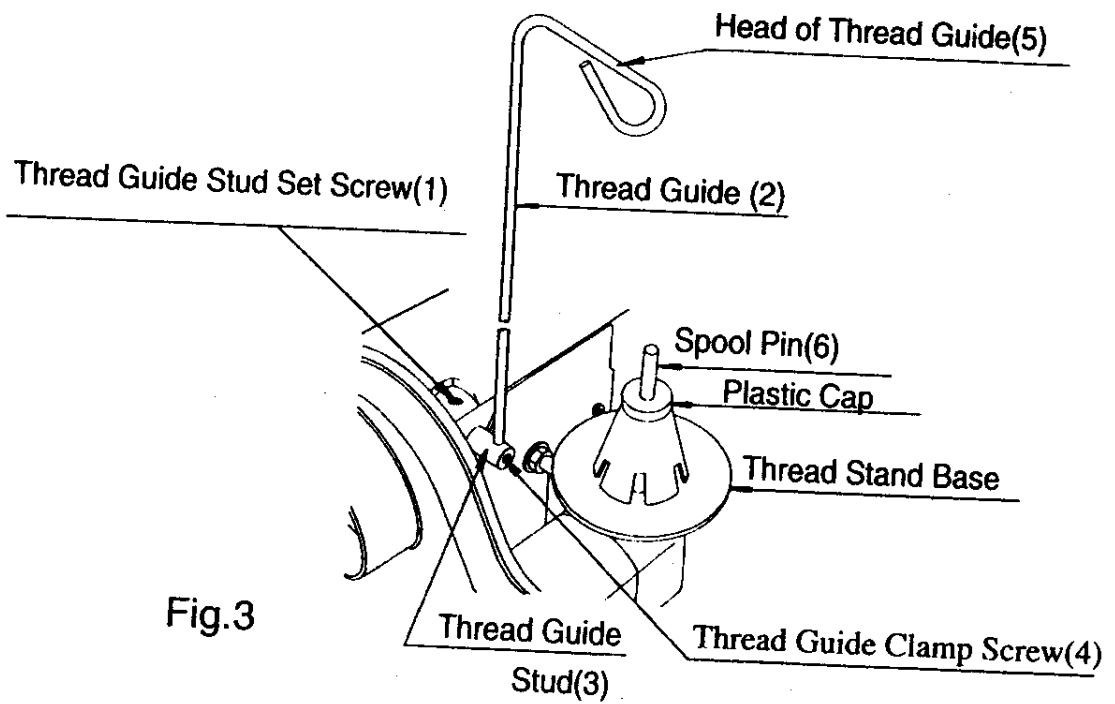

Fig.3
B. Installing Thread Stand (Fig. 3)